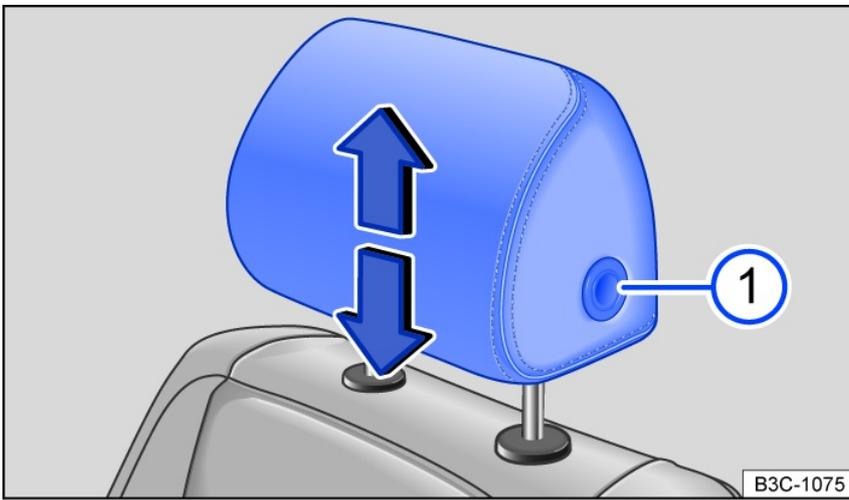
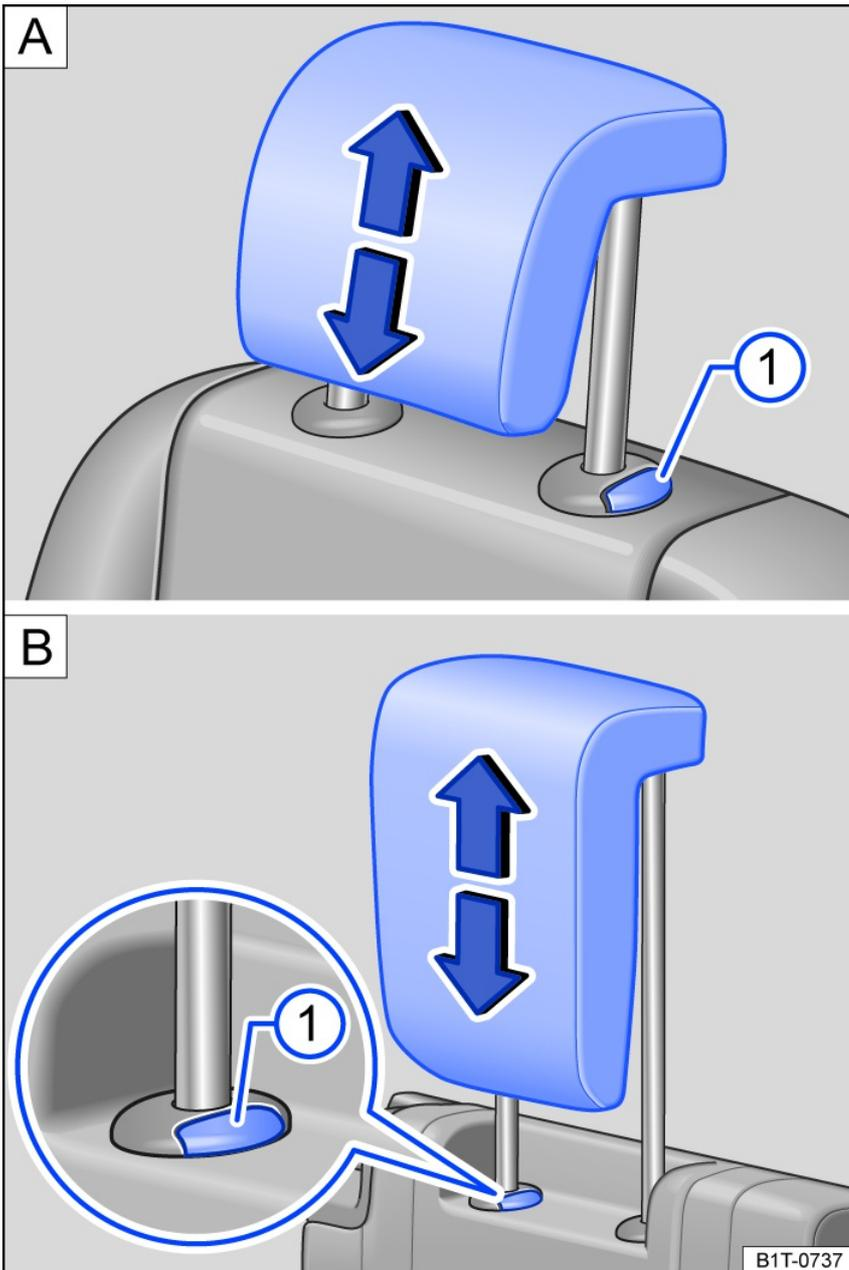

Fig. 86 Adjusting the front head restraint.
Fig. 87 Adjusting the rear head restraints: **A** second row seat, **B** third row seat.
- Slide the head restraint upward or downward in the direction of the arrow and while pressing the fig. 86 ① or fig. 87 ① button.
- Push the head restraint upward in the direction of the arrow or slide it downward while pressing the fig. 87 button.